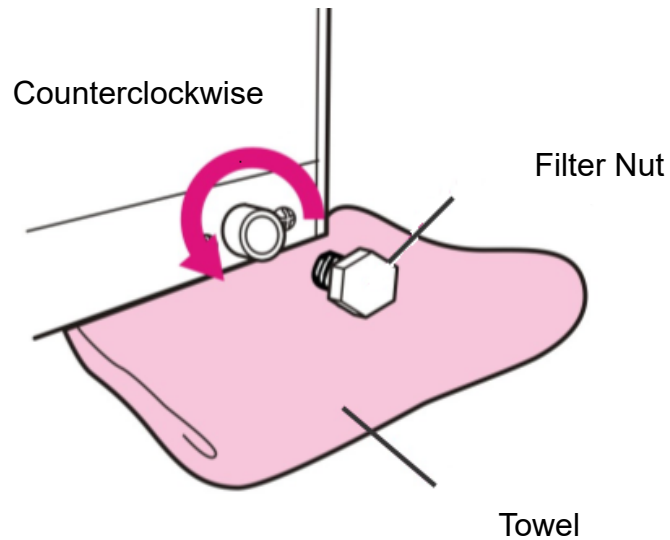
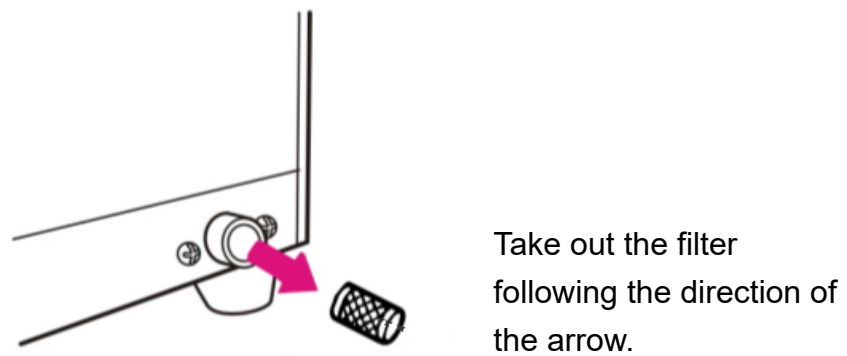

Figure 47
Figure 48
- Use a wrench to unscrew the filter nut counterclockwise as Figure 47 & Figure 48.